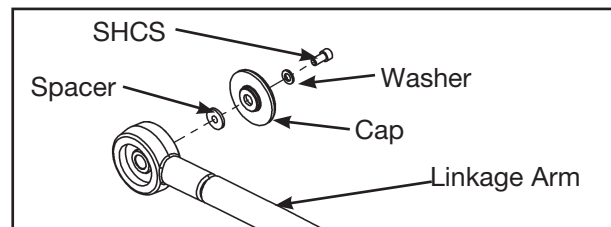

Figure 3
- A. Using a 3/16" Allen wrench, remove the SHCS, washer, cap and spacer securing the linkage arm. See Figure 3. **NOTE:** Figure 3 shows the contents of the linkage cap kit that will be installed in step 19A.